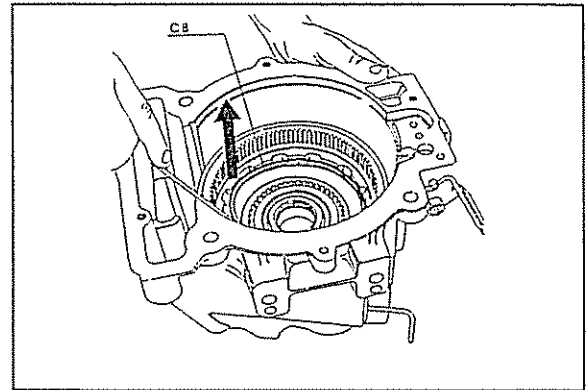

Figure B10
3.3 Remove the forward clutch pack retaining snap ring (T3-2 #48A) from the groove in the forward drum. Remove the pressure plate (T3-2 #29A), and clutch pack assembly (T3-2 # 54A & 47A) 4 (four) bronze and 4 (four) steel) from the drum. See Figure B10.